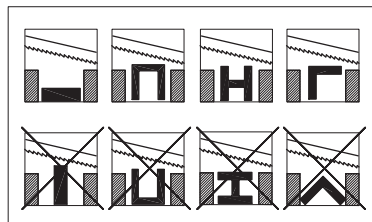

Abb. 11
4.6 KORREKTES ANBRINGEN DES WERKSTÜCKS IM SCHRAUBSTOCK (Abb.11)